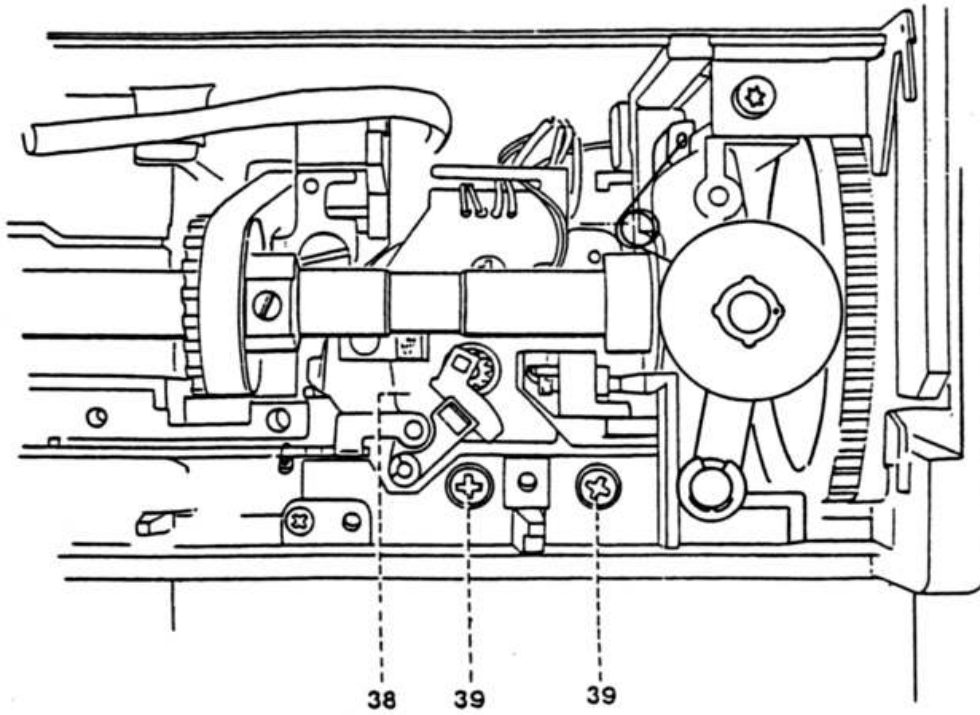

Fig. 9b
- Loosen screws 39 just a little (fig. 9b).